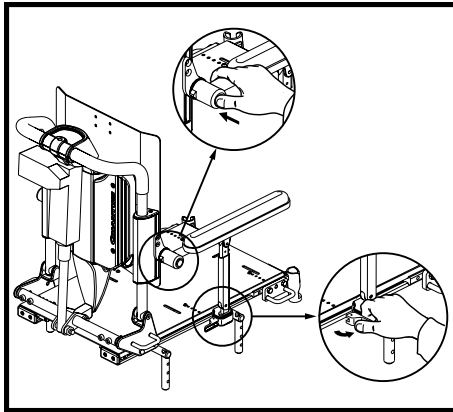

Figure 15. Armrest Unlock
1. Pull the armrest lock lever on the seat base toward you. See figure 15.
2. Press the button on the side tube. See figure 15.